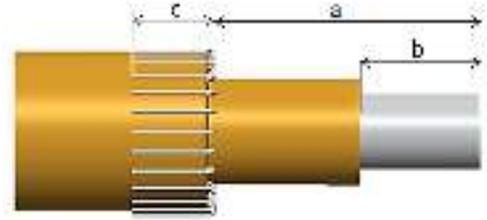

Figure 2
a.Strip the cable according to the parameters in Table 1, and refer to Figure 2 for the corresponding strip size.